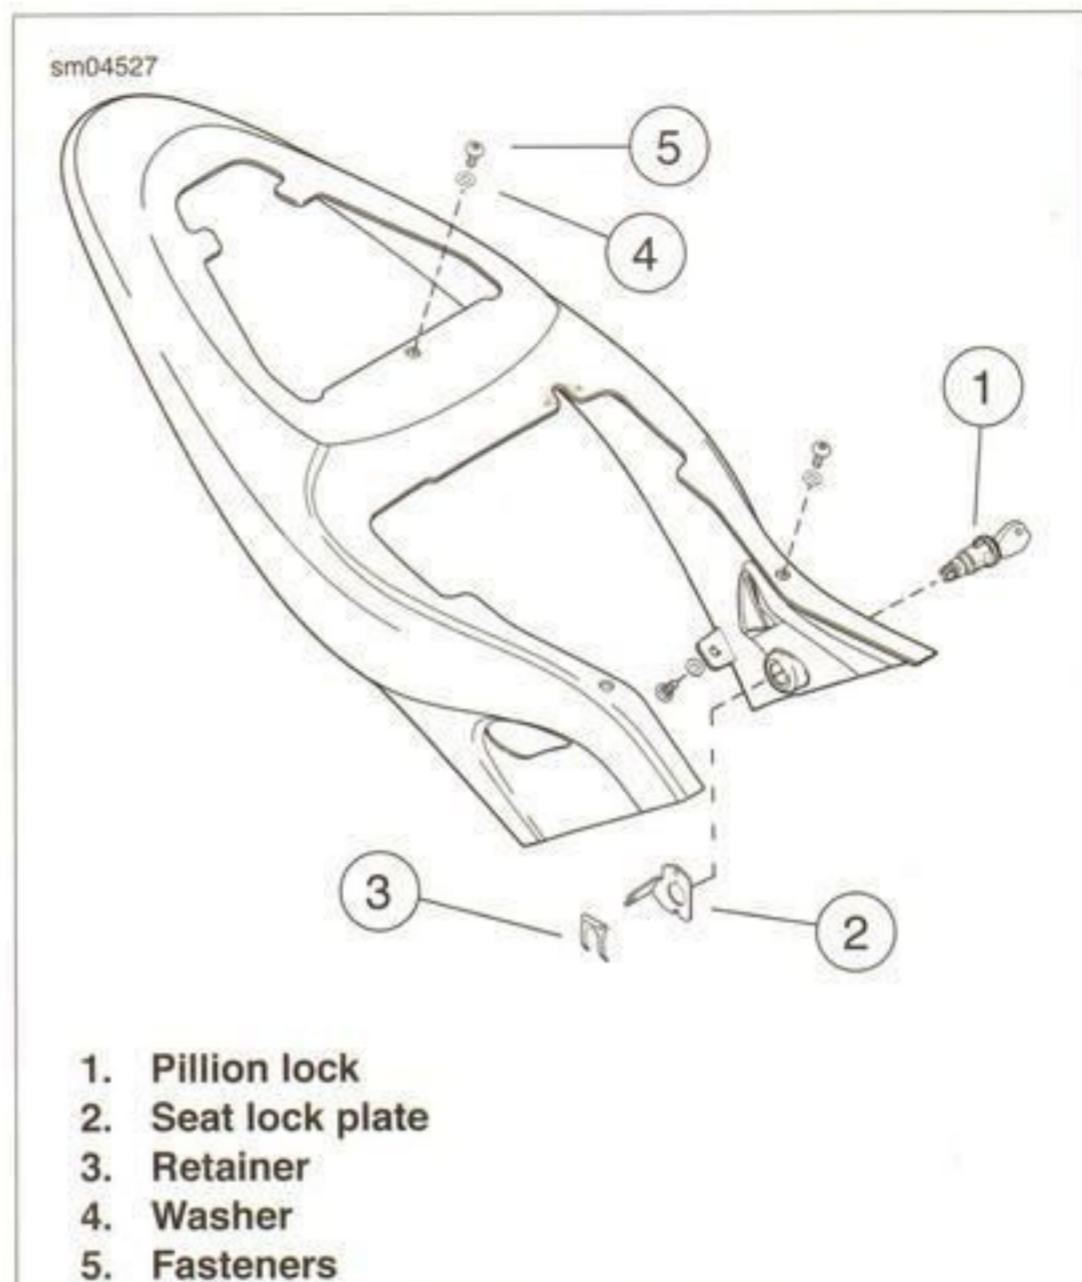

Figure 2-116. Tail Section
6. See Figure 2-116. To install the lock:
- a. Fit the lock (1) through the tail section and seat lock plate (2).
- c. Snap in the retainer (3).
7. Spread the body over the subframe and install the fasteners (5) and washers (4).